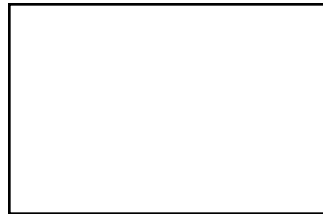
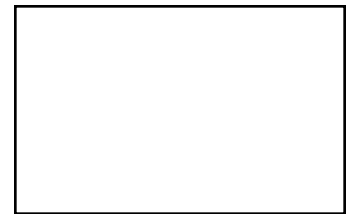

Figure 7
Figure 8
- 3 Apply Teflon tape to threads of 1/4 inch air coupler (see Figure 7) and secure air coupler to air input port (see Figure 8.).